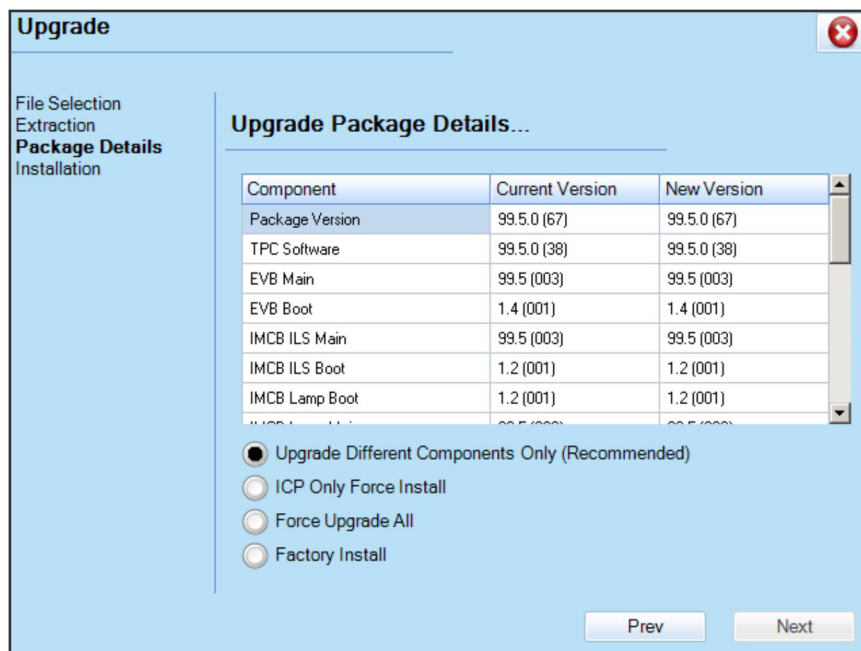

Figure 3-9 Upgrade: Package Details Window
4. The **Package Details** window shows the versions of all components installed in the projector (**Figure 3-9**). Select the type of install to perform: **Upgrade Different Components Only**, **Force Upgrade All**, or **Factory Defaults Install** and click the **Next** button to advance to the **Installation** window.